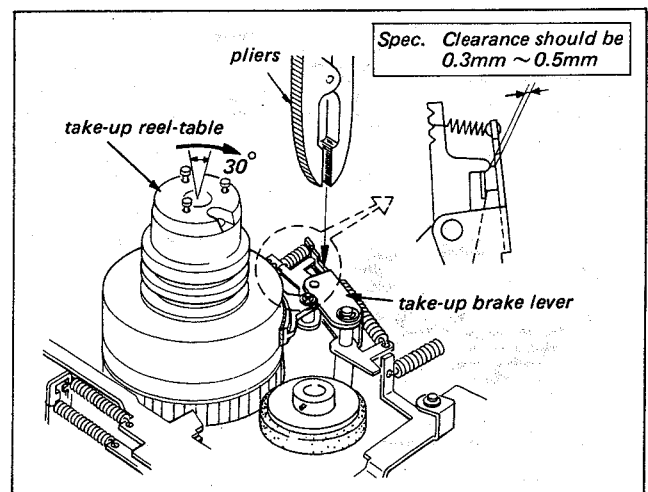

Fig. 4-18. Take-up reel-table brake torque adj.
2. Grasp the top of the Take-up Reel-Table with fingers. Check to see the clearance of 0.3 mm ~ 0.5 mm shown in Fig. 4-18 as it is turned (↻) clockwise approx. 30 degrees. If not, adjust it by bending the Take-up Brake Lever, shown in Fig. 4-18.